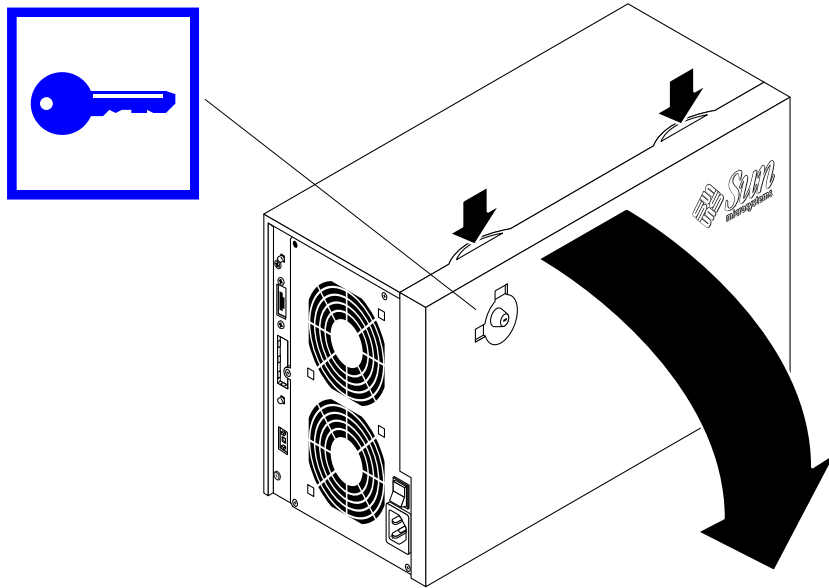

FIGURE 3-8 Opening the Drive Access Panel
3. Open the drive access panel (FIGURE 3-8).